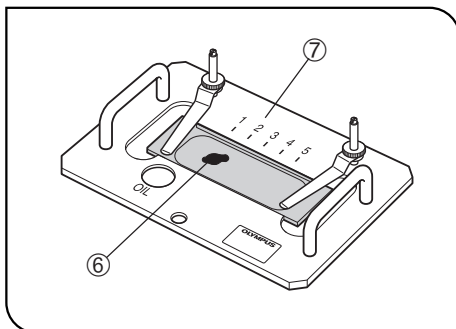

Fig. 4
Ⓞ When using the specimen holder for slide glass, memorize the map area indicator number ⑦ aligned with the position of the observation target ⑥ and use the same position in later observation/acquisition. (Fig. 4)